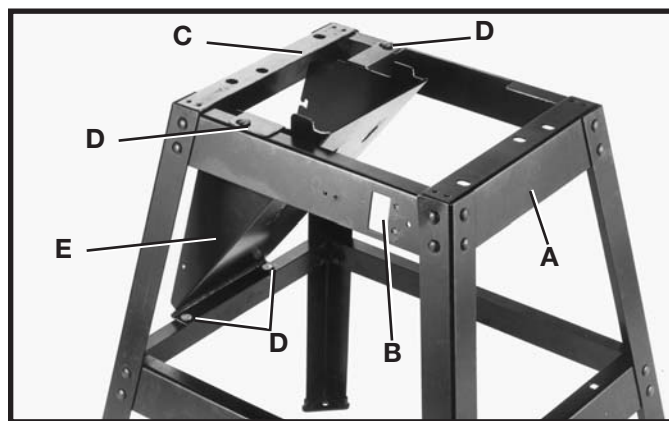

Fig. 6
1. The front of the stand is indicated by switch opening (B) Fig. 6, making the outfeed end of the stand (C) and the infeed end (A).
2. Assemble dust chute (E) Fig. 6, to outfeed end of stand (C) as shown. Align the four holes (D) Fig. 6, in the dust chute with the four holes in the stand. Insert a 5/16-18x3/4" carriage bolt through the hole in the dust chute and stand. Place a 5/16" flat washer onto the screw and thread a 5/16-18 hex nut onto the screw. Repeat this process for the three remaining holes in the dust chute and stand. **Only tighten hex nuts fingertight at this time.**